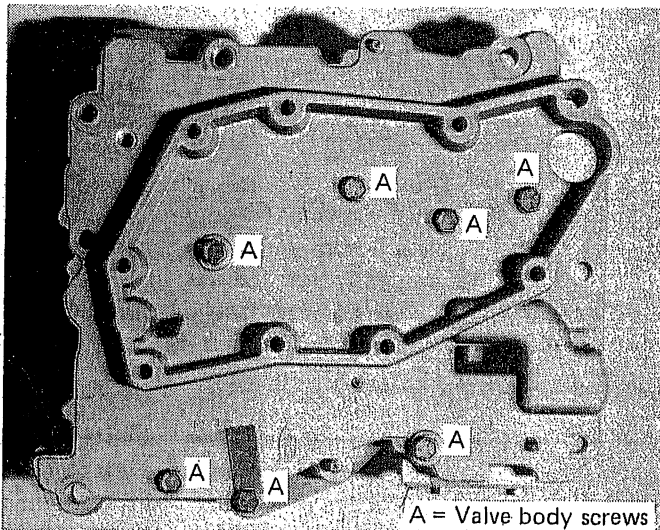

FIGURE 5
STEP 7. Remove the remaining valve body screws. (See Fig. 5) There are seven of these screws and they are medium length. The valve body consists of three main components. The main housing with the valves is called a **casting**. The thinner aluminum casting that the filter is attached to is called the **transfer plate**. The thin steel plate with all the holes is called a **separator plate**.